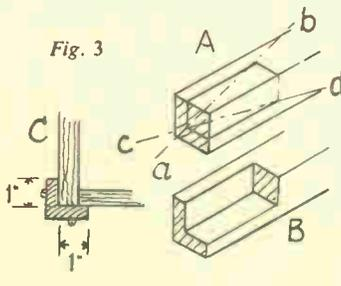

Fig. 3
To fit the legs to the tray, pencil out a portion at the top of each leg, 1 in. each way (or $\frac{3}{4}$ in. each way if the bought legs suggested are employed), the length being equal to the depth of tray, plus its bottom. This would be $4\frac{1}{2}$ ins. if wood of $\frac{1}{2}$ in. thickness is used for the bottom. When set out, as in detail (A) (Fig. 3.) saw along lines (a-b) and (c-d) and chisel out to the saw cuts. The remainder can then be removed with mallet and chisel, to finish as at (B). Fix the legs to the tray as in plan detail (C) with round-headed screws, using glue as well to strengthen the joints.